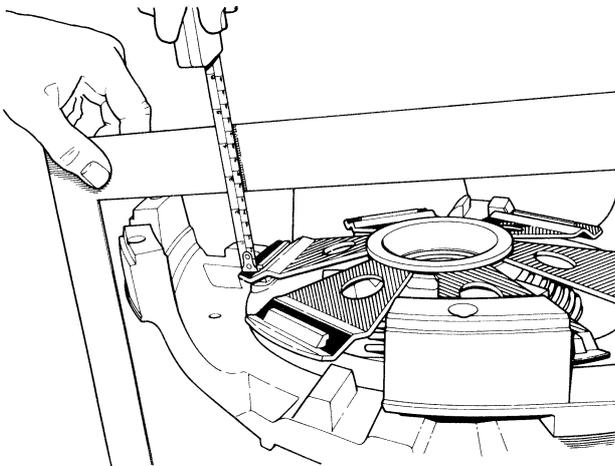

Figure 159 — Setting Adjusting Ring
- g. Place a straight edge across the clutch housing mounting bosses, then measure the distance from the release lever to the straight edge (see Fig. 159). Turn the adjusting ring to obtain a dimension of approximately 63.00 mm (2.48 in.) to pre-set the adjusting ring.